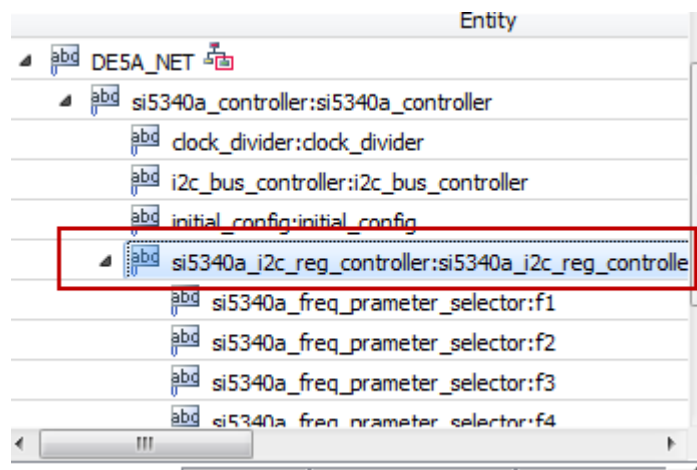
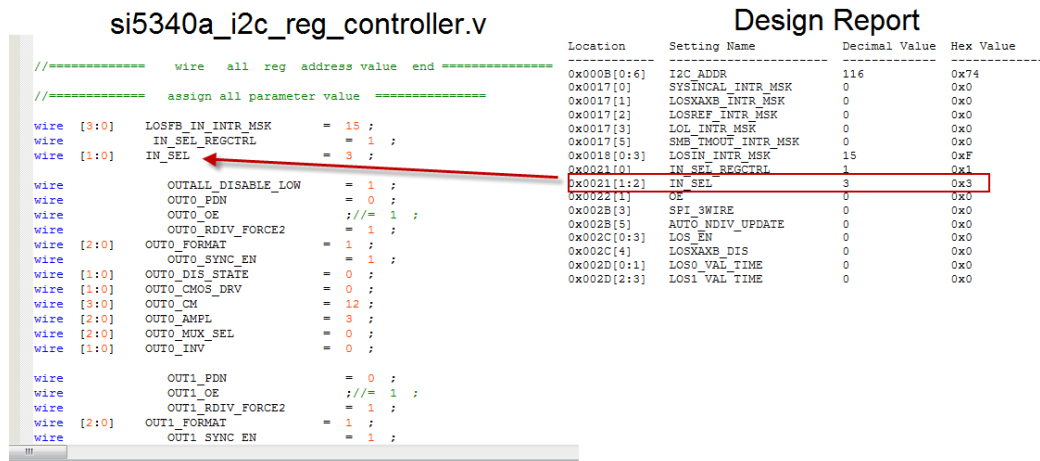

Figure 5-9 Sub-Module file "si5340a_i2c_reg_controller.v"
Figure 5-10 Modify Si5340 Control IP Base on Design Report
- Open Si5340 control IP sub-module "si5340a_i2c_reg_controller.v" as shown in Figure 5-9, refer Design Report parameter to modify sub-module corresponding register value (See Figure 5-10).